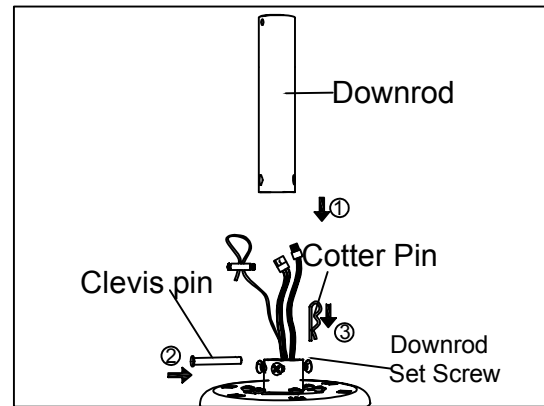

Figure 1.2
- Thread the electric wires and safety cable through the downrod, and insert the downrod into the collar on top of the motor housing. Install the clevis pin by aligning the hole in the downrod with the hole in the top collar, being careful not to damage or cut the fan wires, and secure it with the cotter pin through the hole at the end of the clevis pin. Tighten the three downrod set screws in the top collar. (Figure 1.2)